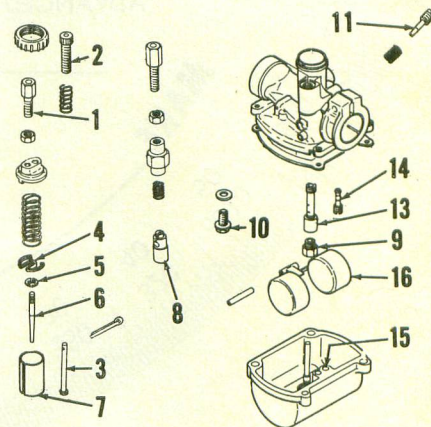
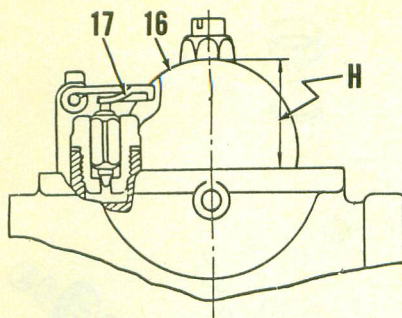

Fig. Y3-1—Exploded view of typical Mikuni carburetor.
Fig. Y3-2—Refer to text for correct float height (H). Height is changed by bending tang (17).
CARBURETOR. A Mikuni VM carburetor is used. Idle speed is changed by turning adjuster (2—Fig. Y3-1). Idle mixture is adjusted by turning needle (11). Float setting (H—Fig. Y3-2) should be 7/8 inch (22mm) for 100cc models, 0.984 inch (25mm) for 125cc models. Refer to Fig. Y3-1 and the following specifications: